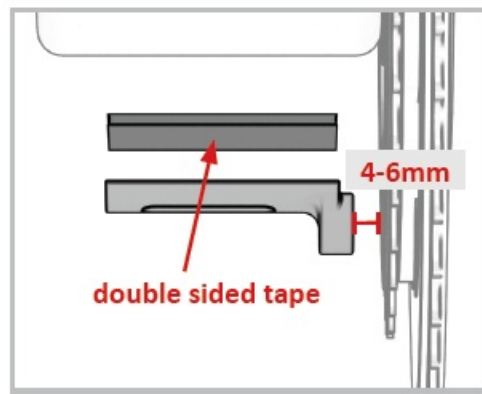

FIG. 10
- Position the magnet 4-6 mm from the backside of the PowerMeter (Fig. 10).